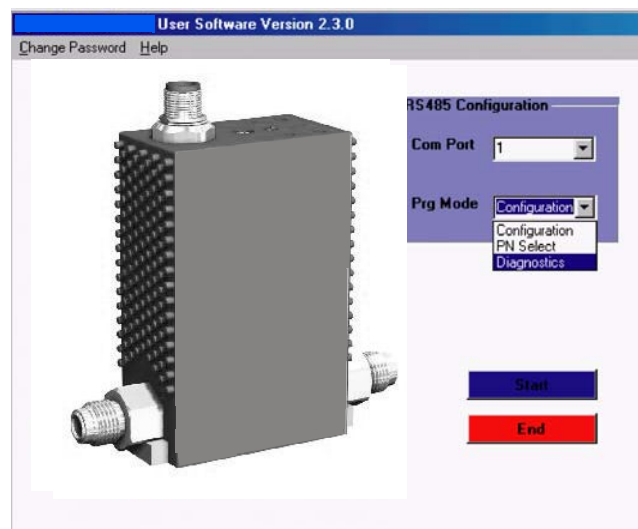

Figure 19: User Software Screen
If proper communications has been established, the first screen will be similar to the one shown in Figure 19.
3. Select a function from the drop down menu (either Configuration, PN Select, or Diagnostics) that is needed to accomplish the task. (See Figure 19:, User Software Screen). Refer to page 15 for the decision process.